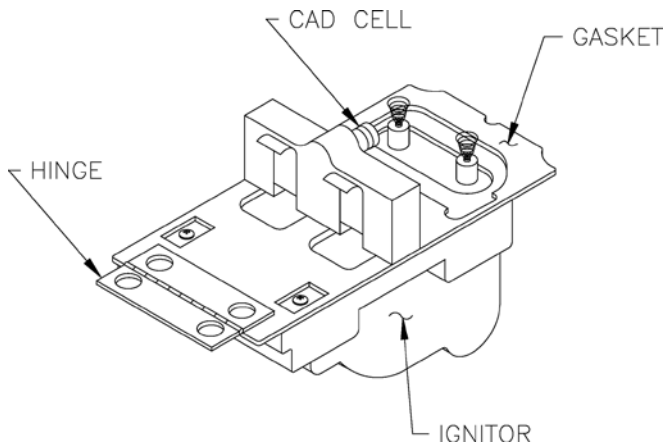

Figure 32: Cad Cell Location
- If safety switch shuts down burner and resistance is above 1600 OHMS, open line switch to boiler. Access cad cell under ignitor, clean face of cad cell and see that cell is securely in socket, see Figure 32. Check gasket around perimeter of ignitor lid for proper seal. If gasket is missing or damaged, replace gasket. Room light can effect cad cell resistance. Reset safety switch.